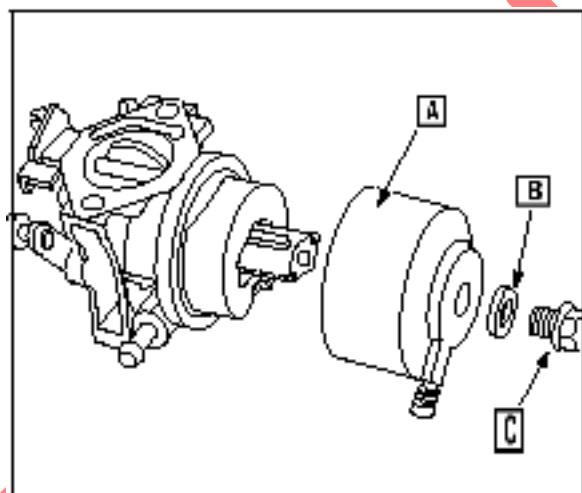

Fig. 72
Remove the float bowl mounting screw (C), washer (B) and float bowl ([A] Fig. 72).